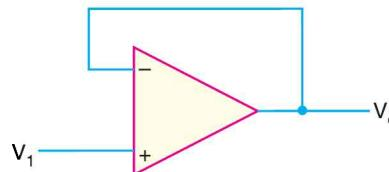

Fig. 25.107
14. What output voltage results in the circuit of Fig. 25.107 for $V_1 = +0.5 \text{ V}$? $[V_o = 0.5 \text{ V}]$